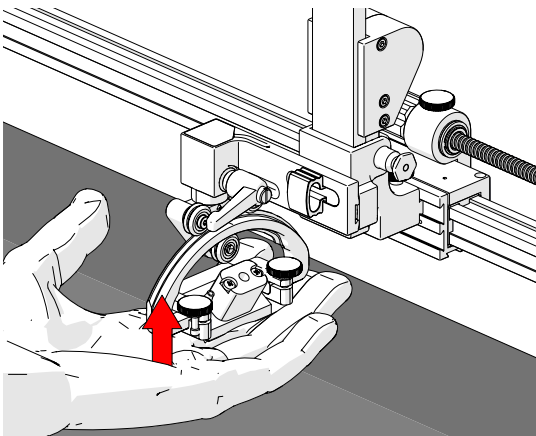

Fig. 54 - Lift probe holder
1. Lift the probe holder slightly to allow the release of the latch pin (Fig. 54).
1. Slightly lift the probe holder (Fig. 54).
4. Slightly lift the probe holder (Fig. 54).